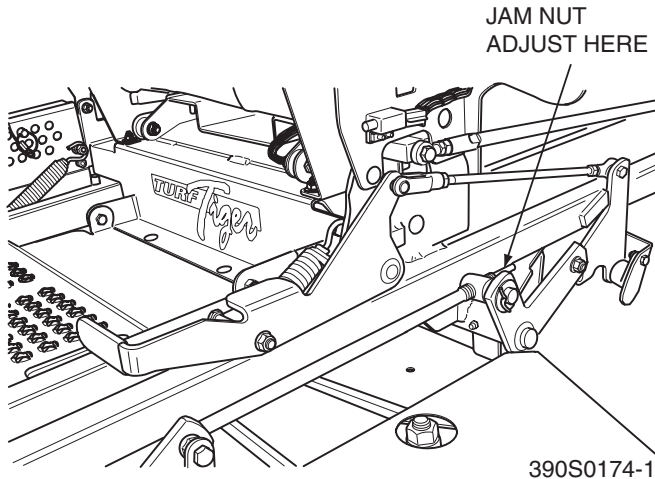

Figure 6-6. Cutter Deck Level Adjustment
1. Loosen the jam nut on both adjusting rods. (See Figure 6.6)
- Using a wrench on the jam nut (See Figure 6.6) turn the adjusting rods until the proper pitch is obtained on both the RH and the LH side of the cutter deck. Tighten both jam nuts.